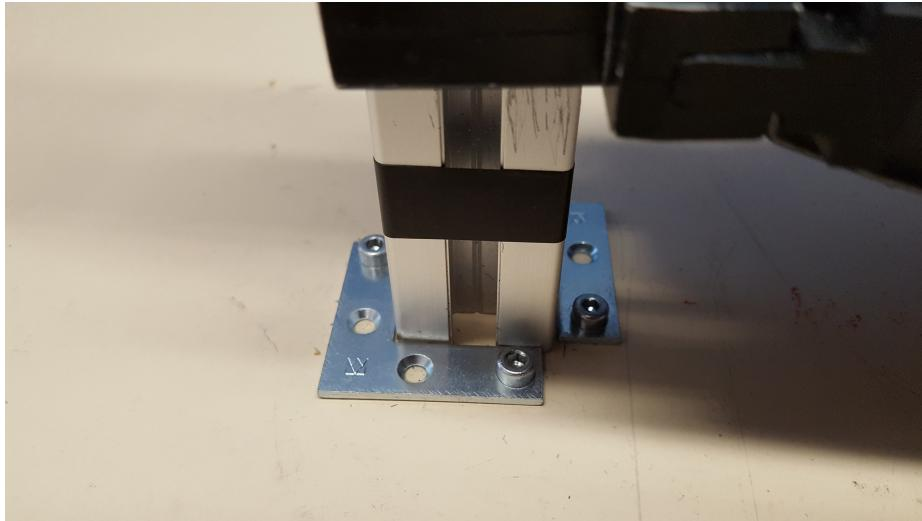

Figure 6: An object placed in the container; this ensures that the initial (grasping) position is constant
- The chosen object must be placed in the container properly in order to ensure that the picking pose is always the same. More precisely, the object must not be touching any part of the upper container's surface, i.e. it must be placed **in between** the four borders of the container (see figure 6).